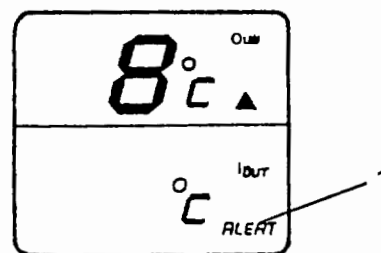

Figure 3-10 — Alert Symbol
317. Following the above activation the "Alert" symbol (1) will appear in the display. When all the above is complete, push the slide switch to the "Temp" position (Fig 3-10).